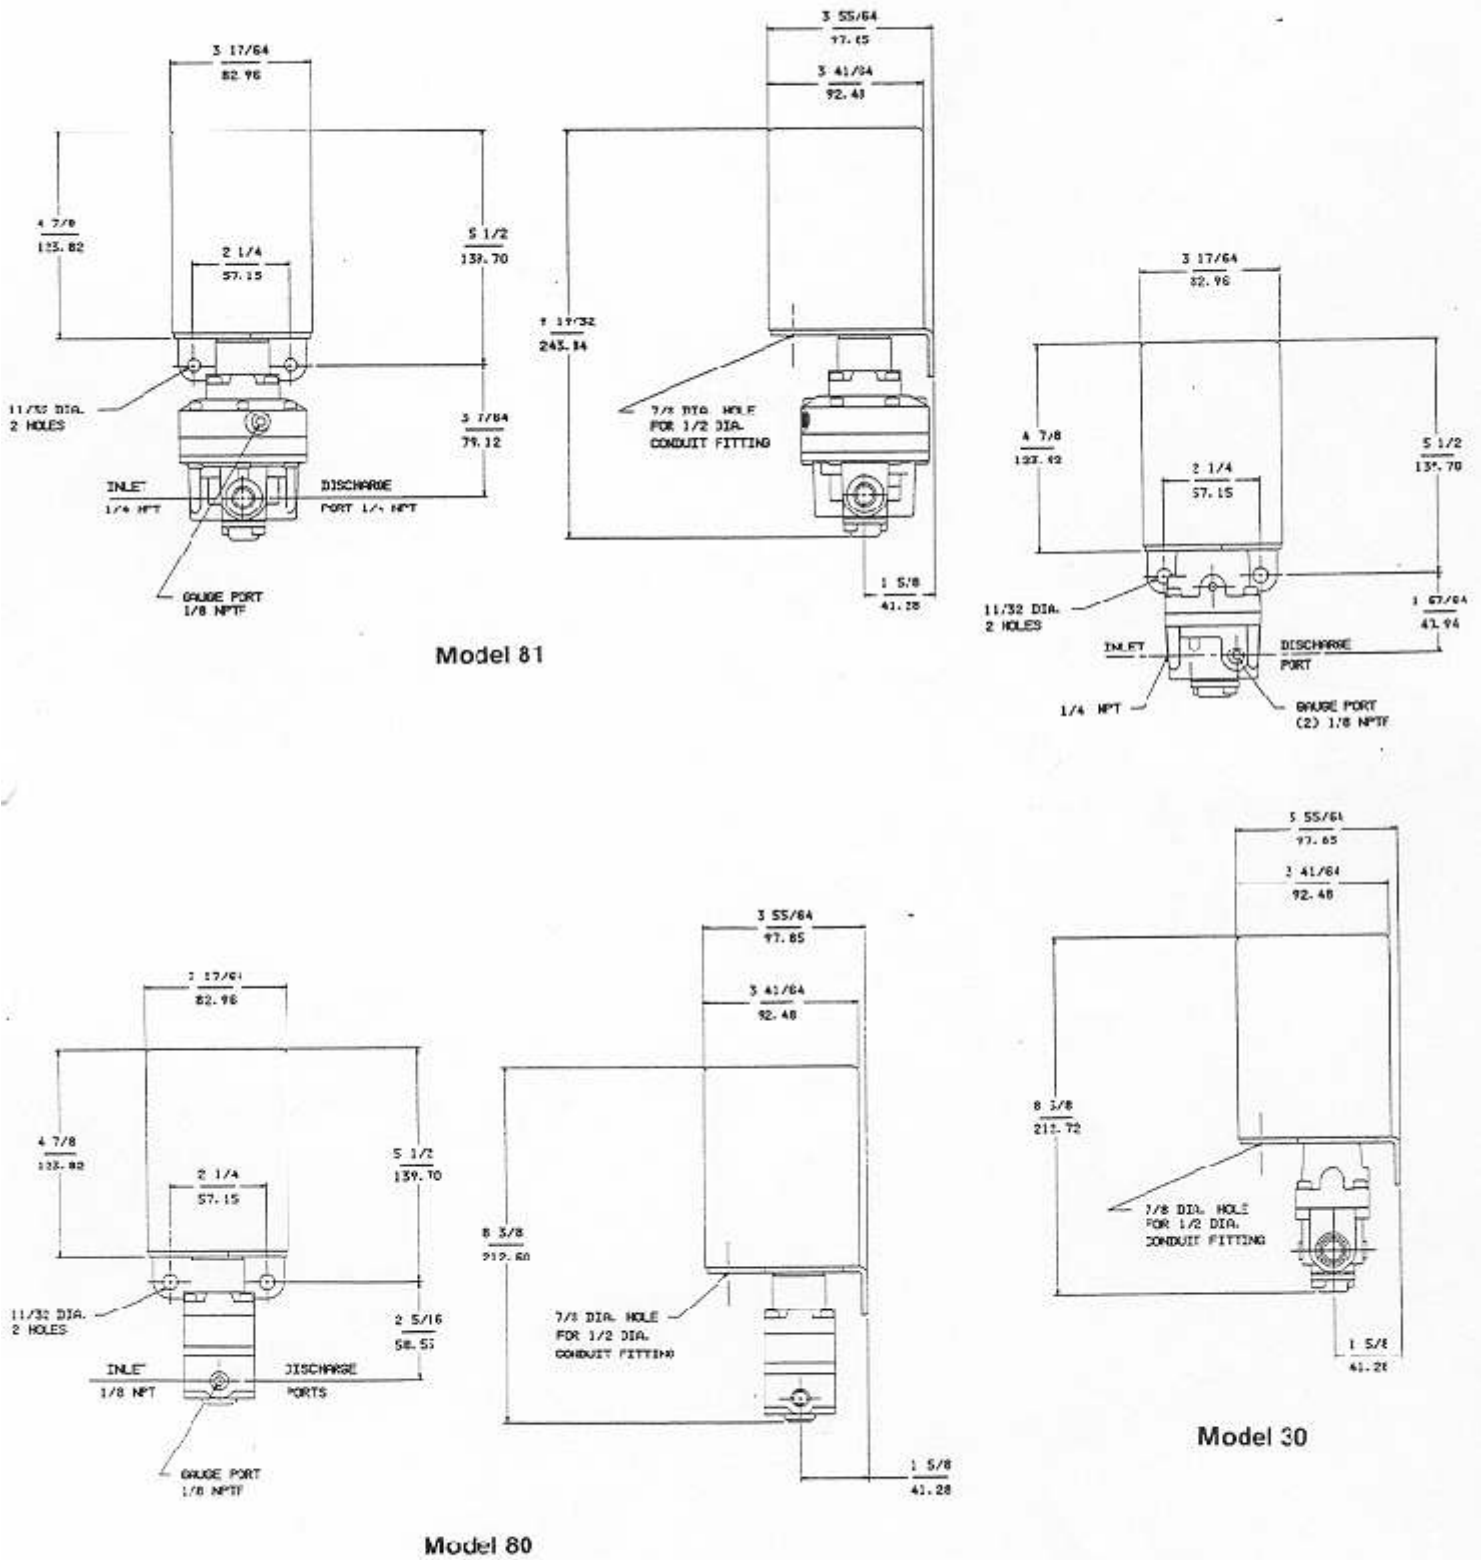

Figure 2
Pneumatic Connections (Figure 2)
12. Place the limit switch hold down Spring (8) between the Limit Switch Assembly (13) mounting blocks and the top Plate (5).
13. Insert the adjusting Screws (4) through the top Plate (5) and the hold down Spring (8) and thread into the limit switch Assembly (13) mounting blocks.
14. Connect the wires in the Harness Assembly (12A), according to the wiring diagram (Figure 2). Replace Snap Bushing (5A) in top Plate (5). Run Harness Assembly (12A) wires through the Bushing (5A) before connections are made.
16. Install the Cover (1) and cover retaining Screw (1A).